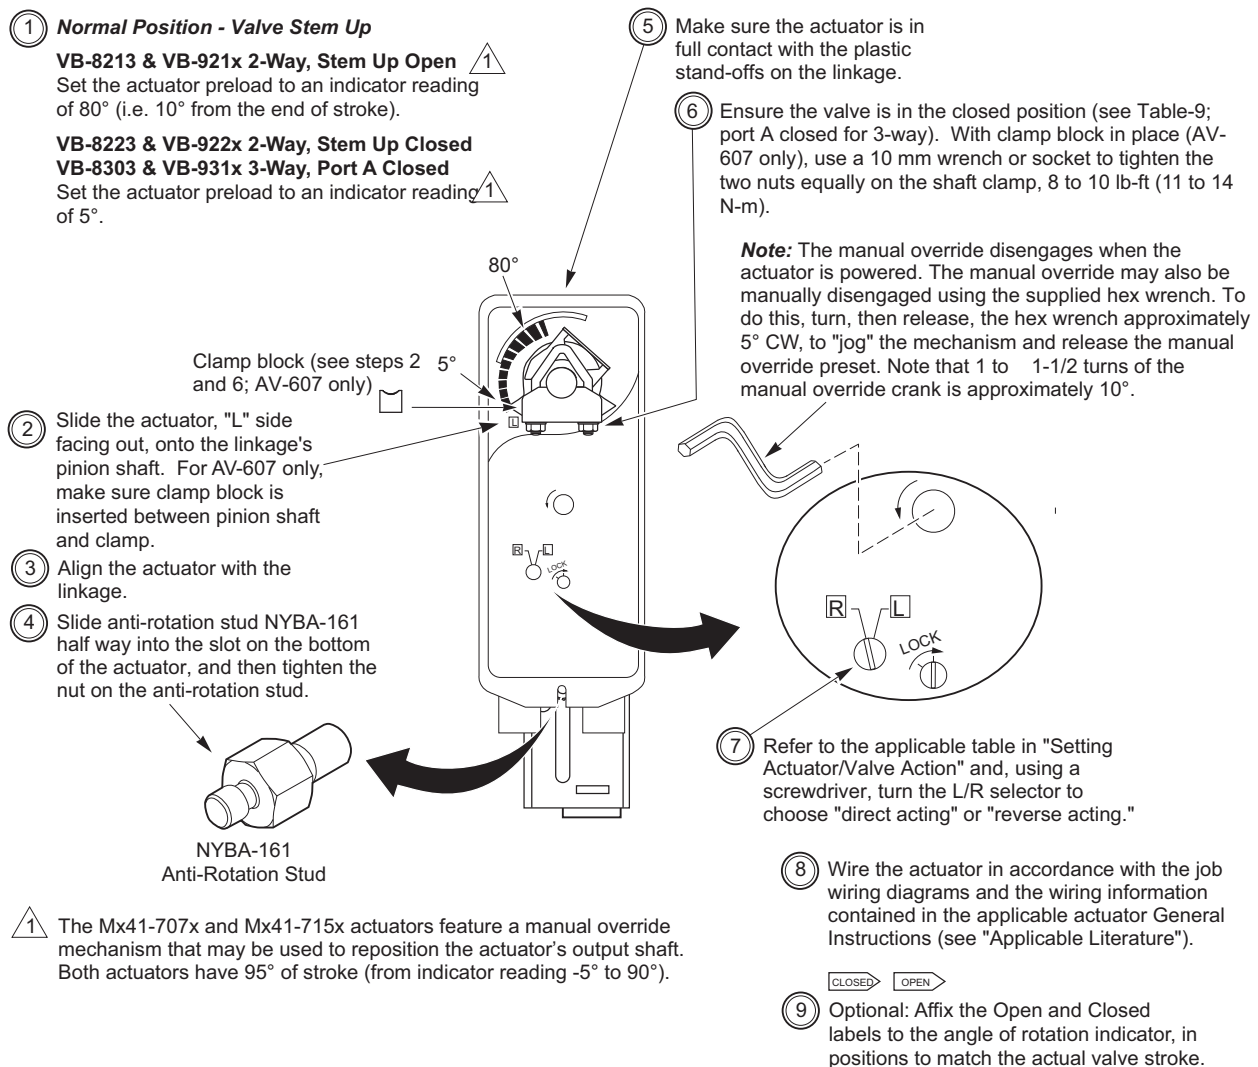

Figure-11 Mounting Mx41-707x or Mx41-715x and Setting Up Actuator/Linkage/Valve Assembly.
- a. Install the actuator onto the linkage and valve, and set up the assembly, according to Figure-11.